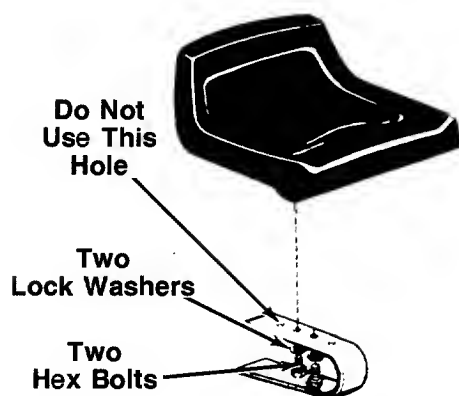

FIGURE 5.
- The seat may be adjusted to two different positions. Select desired position and secure to seat spring with two hex bolts and lock washers. See figure 5.
Do not use the last hole in the seat spring as shown in figure 5 to avoid interfering with the fuel tank.